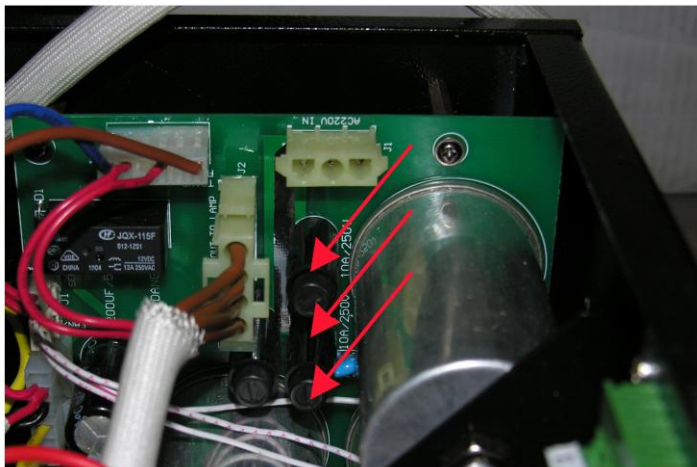

Fig. 7
2. On the right side you will see a PCB Board. There are 3 fuses (3X 15A) on the PCB Board (Fig. 7).